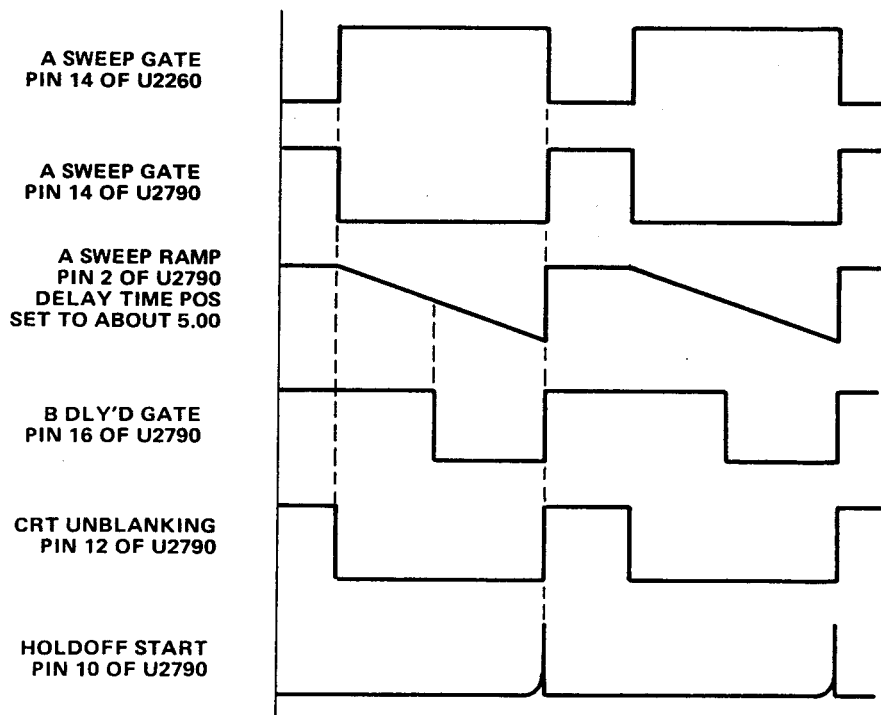

Figure 4-7. Waveforms produced during A sweep operation.
**(4) A Sweep Generator.** A sweep generator consists of U2790 and associated circuitry. Figure FO-6 shows a complete schematic diagram of the circuit. Figure 4-6 shows a simplified diagram of the circuit. Figure 4-7 shows the waveforms produced during A sweep generation.